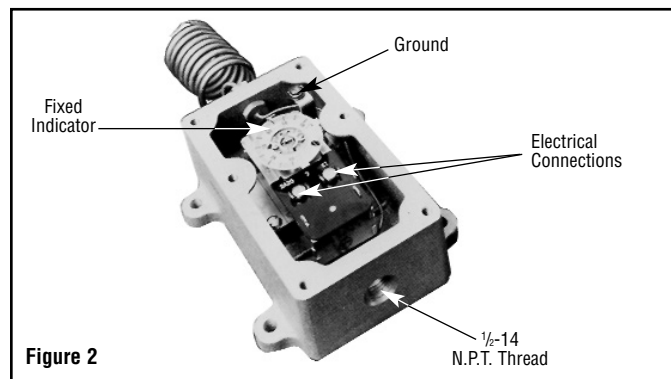

Figure 2
3. Entrance for wiring is provided by one $\frac{1}{2}$ -14 NPT hole in the bottom of the housing. Wiring to control housing must be in rigid conduit also in accordance with National Electrical Codes (NEC) for hazardous locations. (See Figure 2)
1. Set the internal dial and the external dial to the same setting so that the hole in the dial lines up with pin on the arm that is operated by the knob. (See Figure 2)
5. Loosen two dial screws (Figure 2). Carefully turn the dial only to correct temperature setting as indicated by thermometer. Be sure the thermostat shaft is not moved during this operation.